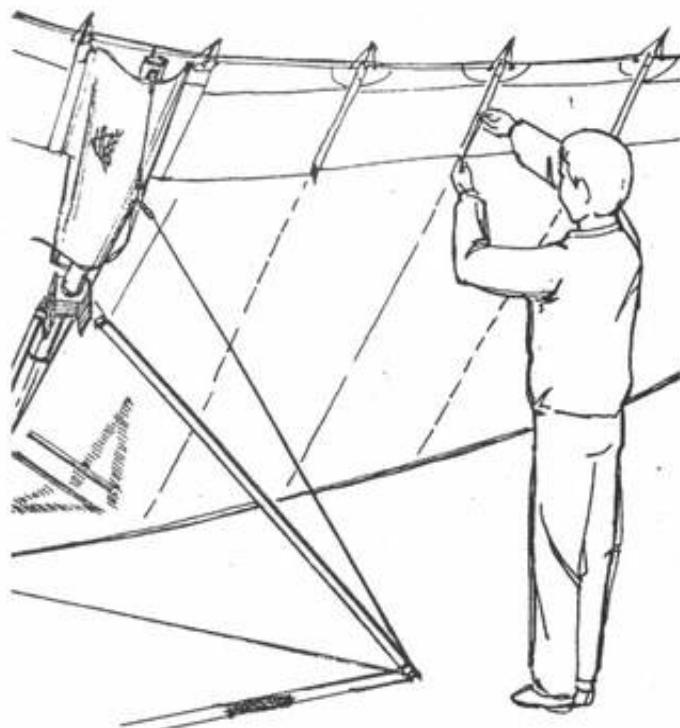

Fig.25
2.2.16. Install the bottom surface battens. The longest bottom surface batten is inboard batten. Push the battens all way into the pocket until the rear end is secure in the batten pocket. The strings on the rear ends of the bottom surface battens are to facilitate removal of the battens from the sail during breakdown (Fig.25).